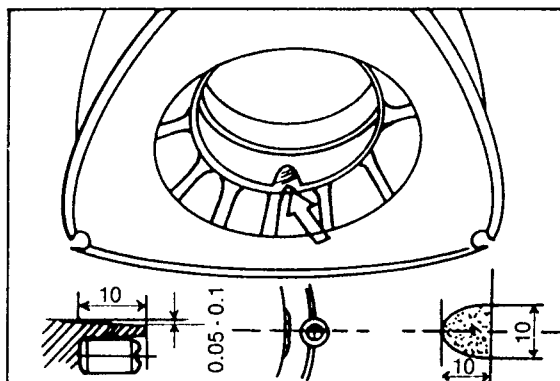

Figure 17
(3) Locking screw installation.
- The bearing should be locked firmly in place by one locking screw opposite the clinch, as shown in Figure 17. This requires drilling and tapping.